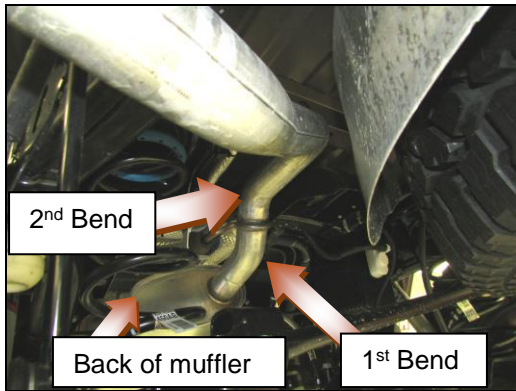

Figure 1
4. Located the exhaust tube coming out the back of muffler (**Figure 1**). Use a paint marker and make a mark where the straight part of the exhaust tube starts after the second bend (**Figure 2**). Now measure 4" and make a new mark, use masking tape and wrap around the tube, this will help you cut a straight line (**Figures 3 & 4**). Use a reciprocating saw and cut the tube, watch out for wires or anything in your way when cutting (**Figures 5 & 6**).